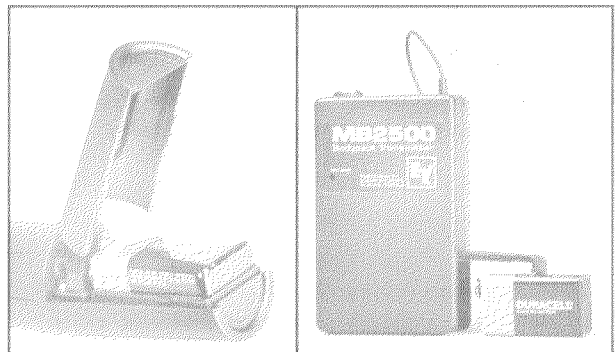

Figure 4 - Install 9 Volt Alkaline Battery into Transmitter
- 1) **Slide the cover of the handheld transmitter battery compartment** by pressing with your thumb on the two horizontal grooves (at the tail end of the transmitter) while gently pulling back. Carefully raise the hinged battery door. Insert a fresh 9-volt alkaline battery into the battery compartment, with the positive (smaller) terminal to the right (with the battery-compartment end of the case toward you). Gently push the battery all the way in and slide the cover back into place (Figure 4).
- 1) **Open the hinged door by sliding down and then lifting to a 90 degree angle.** Place a fresh 9-volt alkaline battery, terminals first with the positive (smaller) terminal away from the battery door hinge, into the battery compartment. Close the door and slide up to latch. (Figure 4)